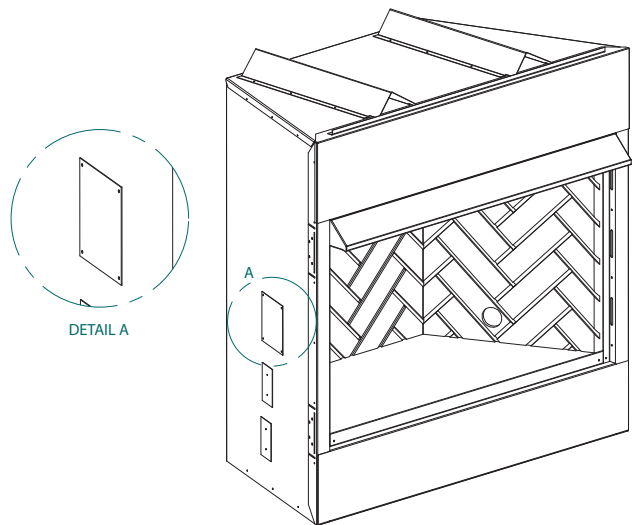

Fig. 11
1. Remove the screws retaining the outside air coverplate, if provided. (Located on the left side of front open units, on backside of multi-sided units.) Discard coverplate. (Fig. 11)
3. Slide the duct over the collar and attach the duct to the collar using the plastic tie straps or three (3) screws (screws not provided). Continue attaching the ducting together using three (3) screws at each joint until you have installed sufficient duct to arrive at your duct termination locations.